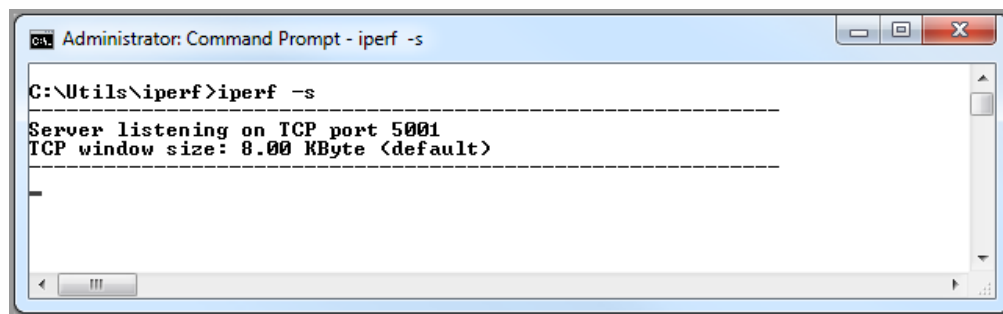

Figure 107 Iperf Server
3. Enter “iperf -s” to run the Iperf server command (Figure 107).